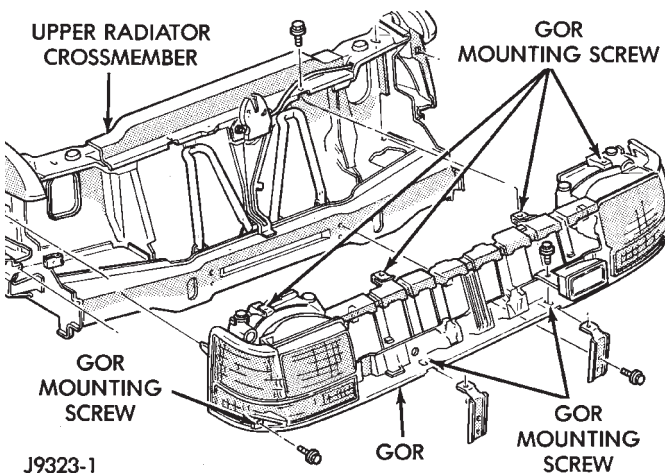

Fig. 8 Grille Opening Reinforcement
(20) Remove 8 bolts that attach grille opening reinforcement (GOR) to the upper and lower crossmember (Fig. 8).